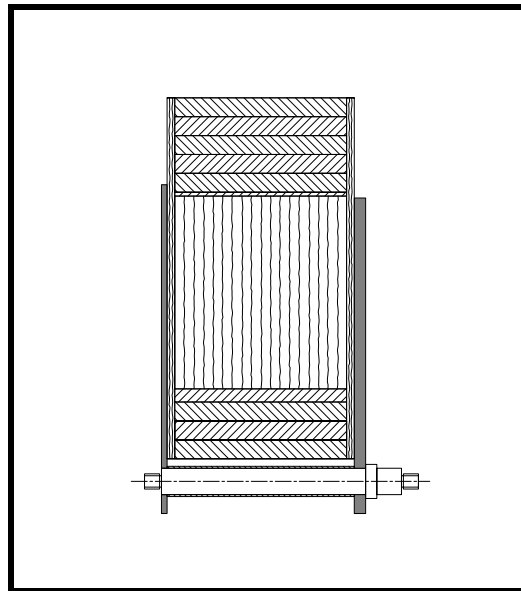

Figure 7
- ❑ Install P/N 706 and 773 as shown in Figure 7. See Drawing No. 102.
- ❑ Install the saddle gussets for the four 30x15 floor supports that are installed between frame No. 3 and 4. See Figure 7. These gussets are shown on Drawing No. 315 and 155. The overall dimensions of the gussets should be 25x50 and the gussets should be made from solid spruce or 6mm birch plywood—glue three pieces of 2mm plywood together.